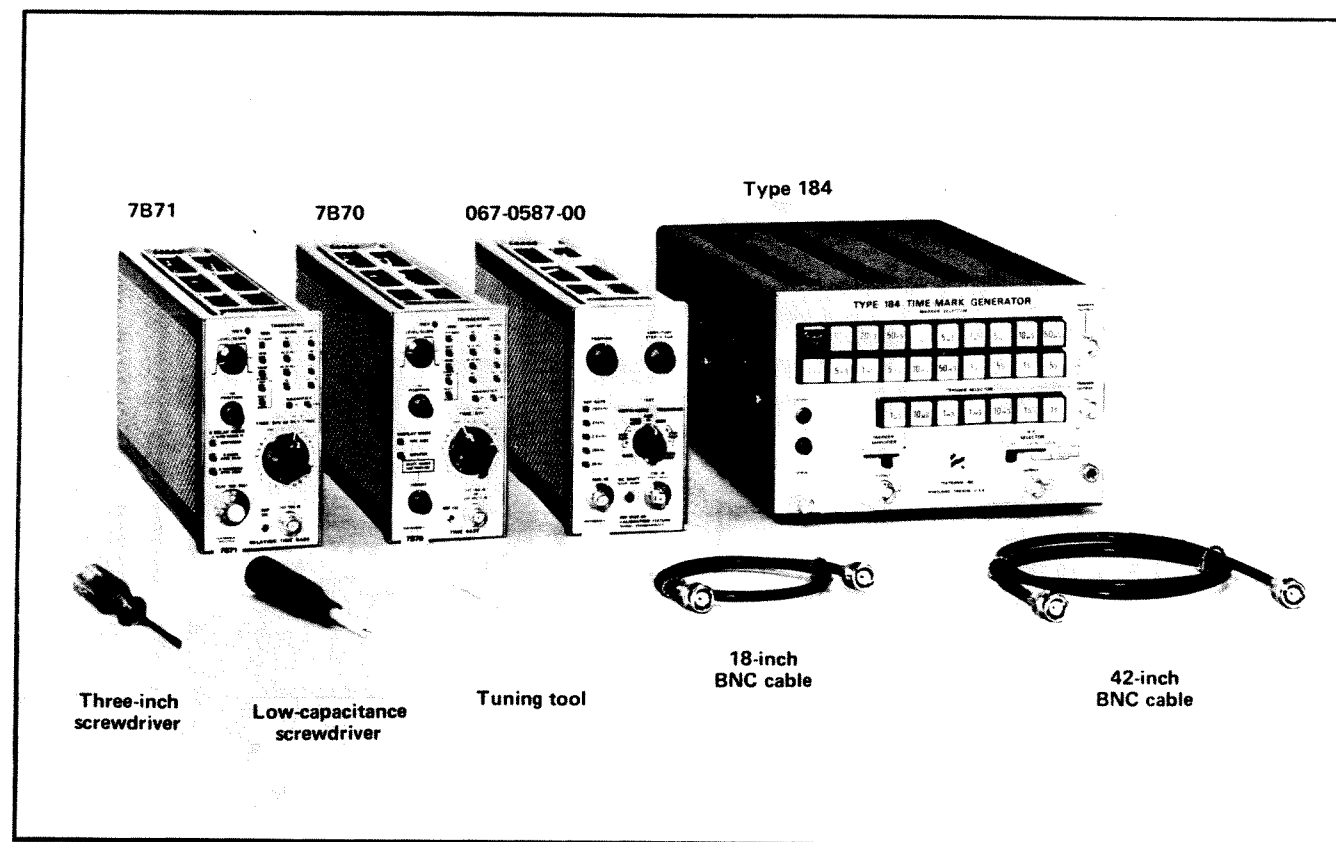

Fig. 5-12. Test equipment required for steps 12 through 17.
a. Test equipment required for steps 12 through 17 is shown in Fig. 5-12.